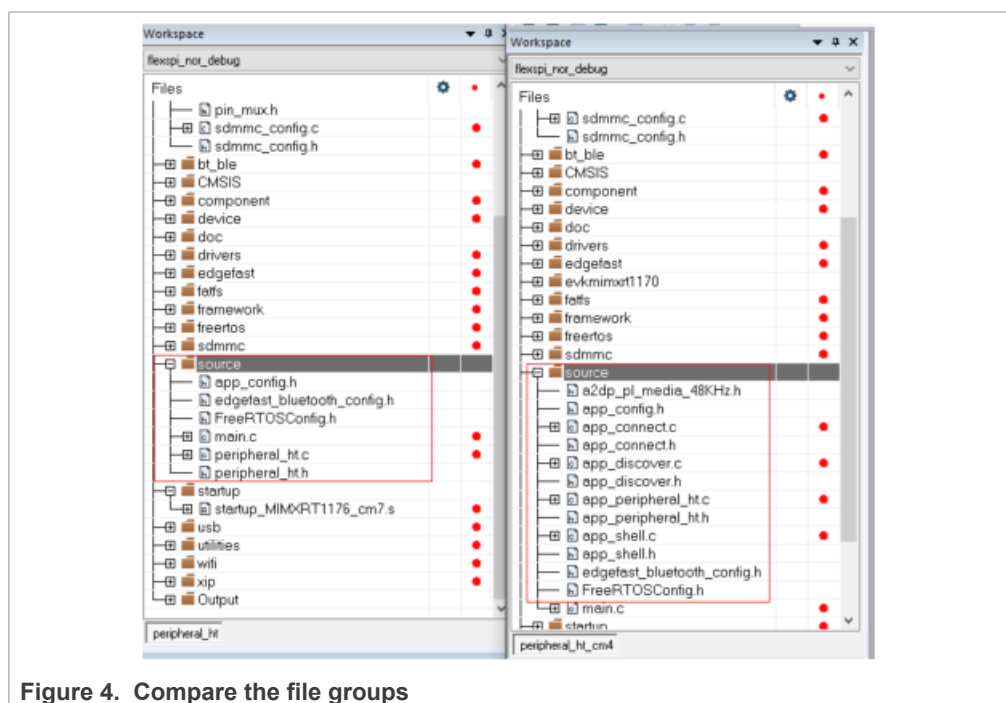

Figure 4. Compare the file groups
2. For example, in Figure 4, the files in the source group in the cm4 project must be removed, and the files in the path: <install\_dir>boards\evkmimxrt1170\edgefast\_bluetooth\_examples\peripheral\_ht with the same name as the files in the cm7 project must be added into the source group.